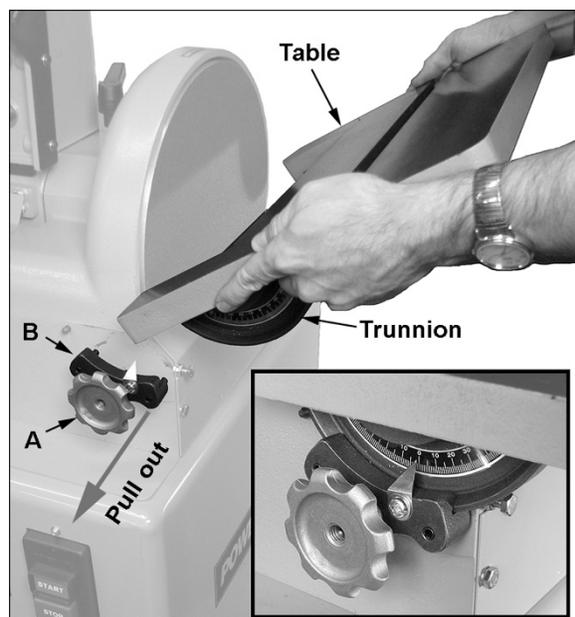

Figure 11
Refer to Figure 11:
1. On both sides of the sander body, loosen the *locking wheels* (A), and pull the *trunnion holders* (B) out far enough to allow clearance between trunnion holders and sander body.
2. Install the table by sliding the table trunnions into the slots of the trunnion holders. See Figure 11 inset. Be careful not to damage the angle pointer on the left trunnion holder.
3. Slide the *trunnion holders* (B) back in, and re-tighten the *locking wheels* (A).